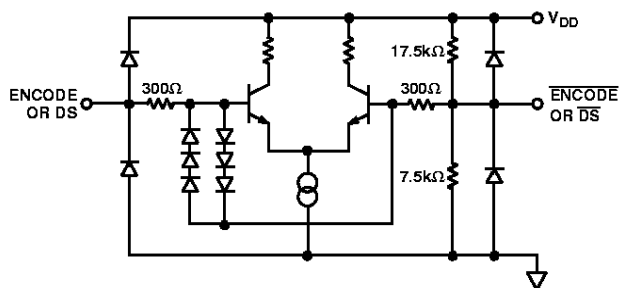

Figure 5. Equivalent ENCODE and Data Select Input Circuit
¹Gain error and gain temperature coefficient are based on the ADC only (with a fixed +2.5 V external reference).²3 dB bandwidth with full-power input signal.³t_{tv} and t_{pd} are measured from the threshold crossing of the ENCODE input to valid TTL levels of the digital outputs. The output ac load during test is 5 pF (Refer to equivalent circuits Figures 5 and 6).⁴I_H and I_{IL} are valid for differential input voltages of less than 1.5 V. At higher differential voltages, the input current will increase to a maximum of 1.25 mA.⁵Power dissipation is measured under the following conditions: analog input is -1 dBfs at 19.7 MHz.⁶Typical thermal impedance for the ST-44 (TQFP) 44-lead package (in still air): θ_{JC} = 20°C/W, θ_{CA} = 35°C/W, θ_{JA} = 55°C/W.⁷A change in input offset voltage with respect to a change in V_{DD}.⁸SNR/harmonics based on an analog input voltage of -1.0 dBfs referenced to a 1.024 V full-scale input range.
ENCODE and Data Select (DS) can be driven differentially or single-ended. For single-ended operation, the complement inputs ($\overline{\text{ENCODE}}$, $\overline{\text{DS}}$) are internally biased to $V_{\text{DD}}/3$ (~1.5 V) by a high impedance on-chip resistor divider (Figure 5), but they may be externally driven to establish an alternate threshold if desired. A 0.1 μF decoupling capacitor to ground is sufficient to maintain a threshold appropriate for TTL or CMOS logic.
Note the 6-diode clock input protection circuitry in Figure 5. This limits the differential input voltage to $\sim \pm 2.1$ V. When the diodes turn on, current is limited by the $300\ \Omega$ series resistor. Exceeding 2.1 V across the differential inputs will have no impact on the performance of the converter, but be aware of the clock signal distortion that may be produced by the nonlinear impedance at the converter.